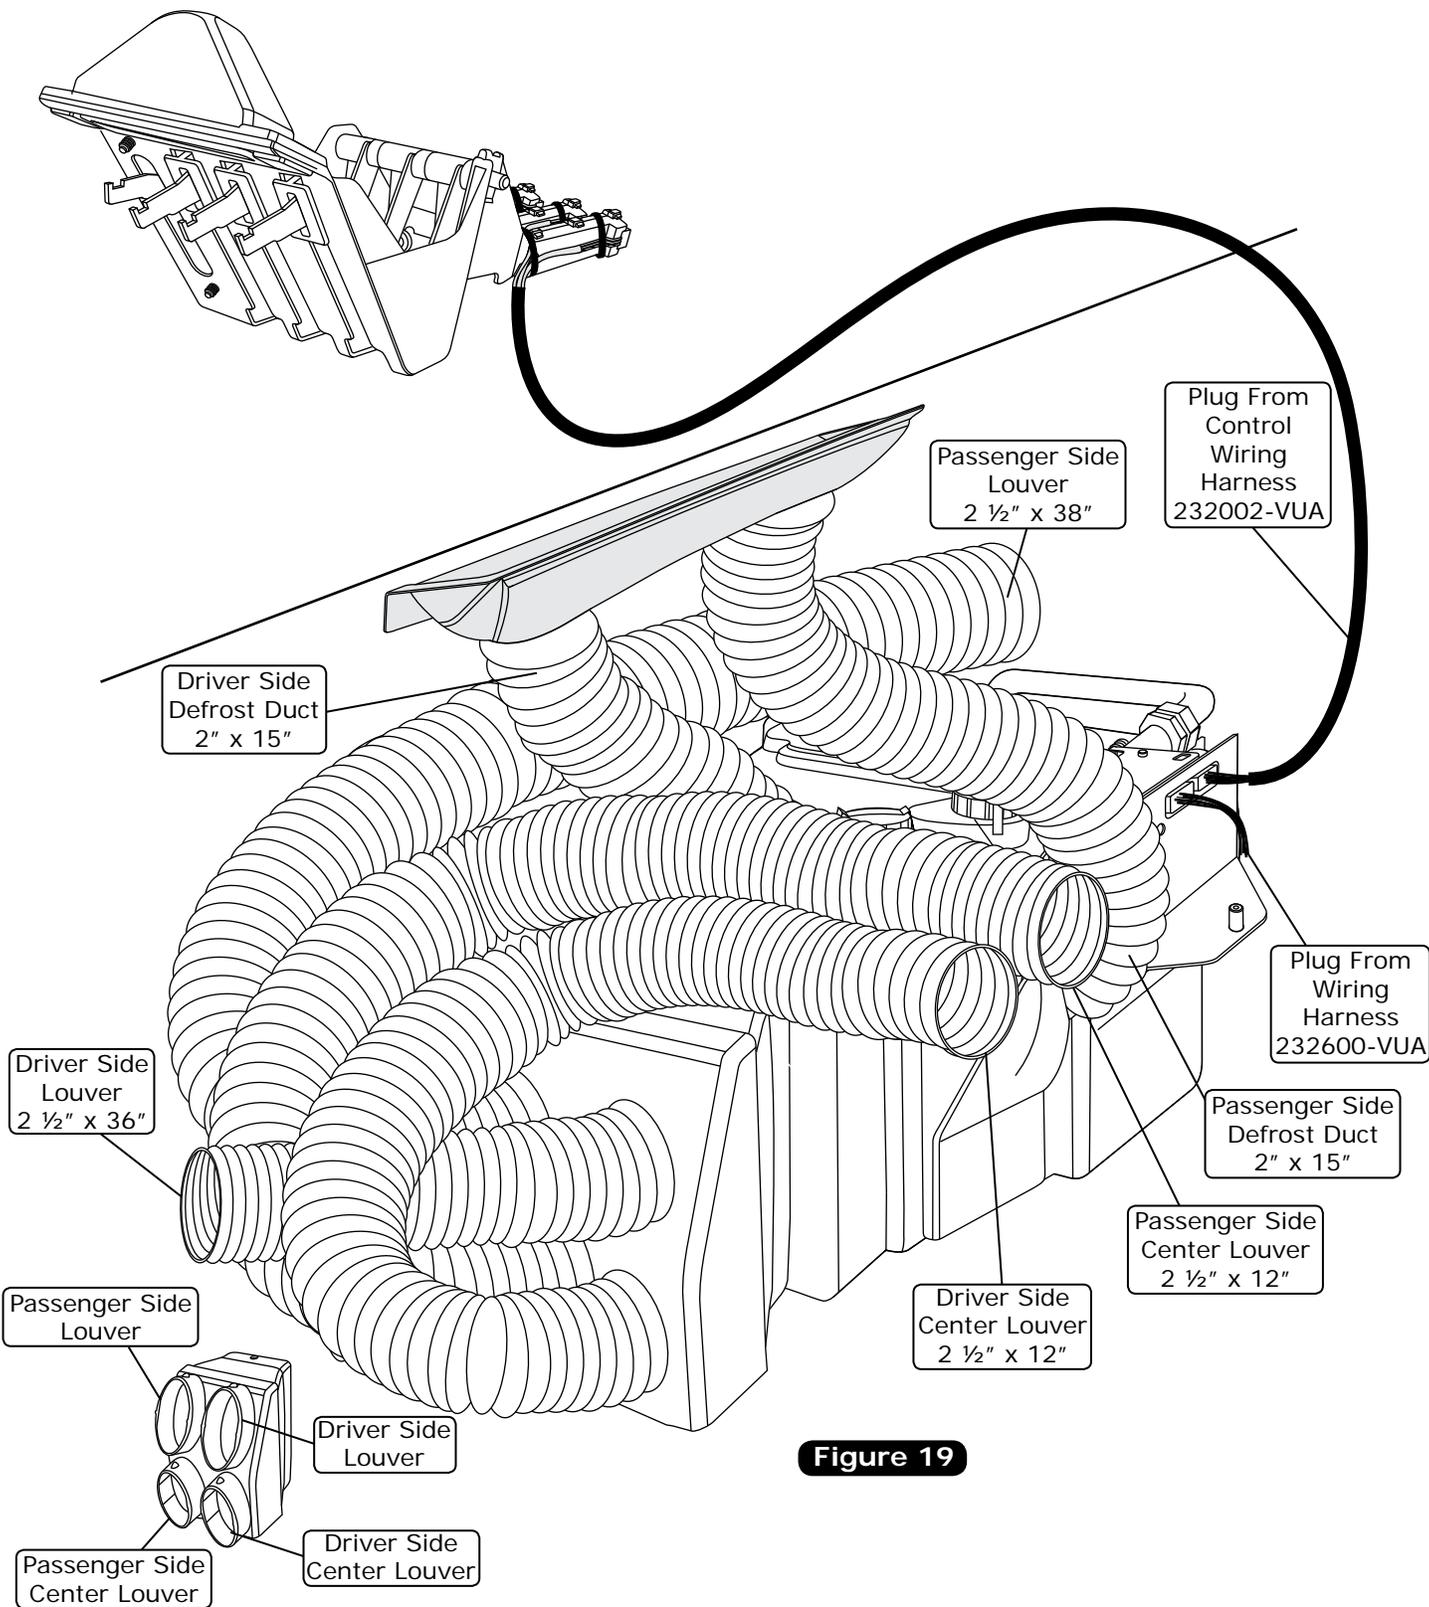

Figure 19
1. Install duct hoses as shown in Figure 19, Page 18.
4. Plug the wiring harnesses into the ECU module on the sub case as shown in Figure 19, Page 18. Wire according to wiring diagrams on Pages 20 & 21.